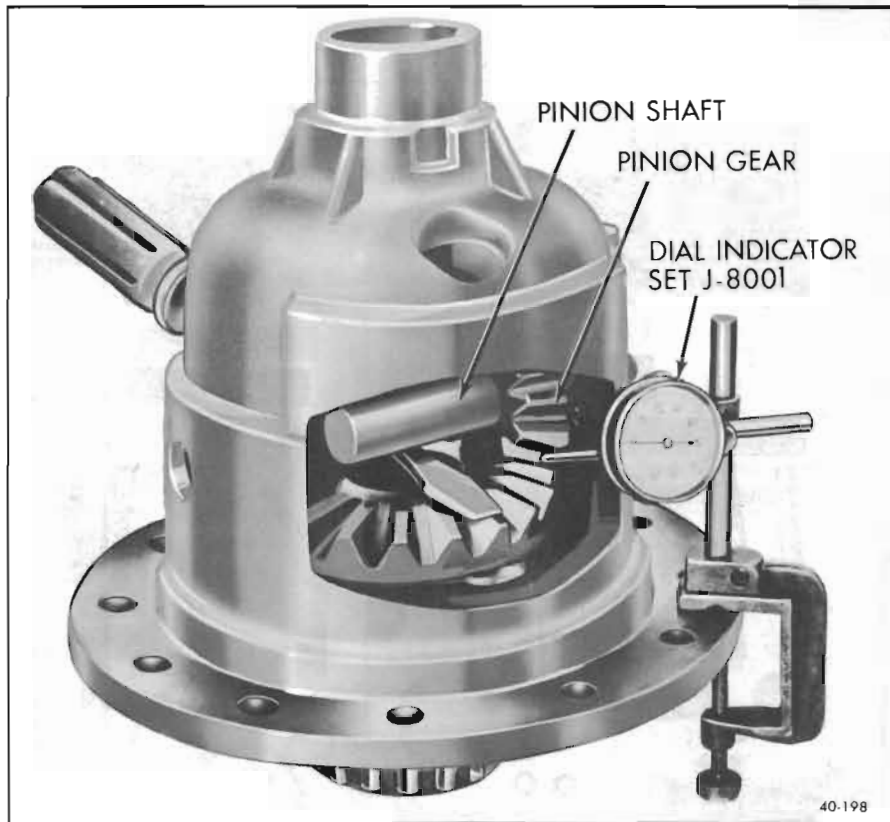

Figure 40-198—Checking Side Gear To Pinion Gear Backlash
- d. Install dial indicator with the contact button against the pinion gear. See Figure 40-198.